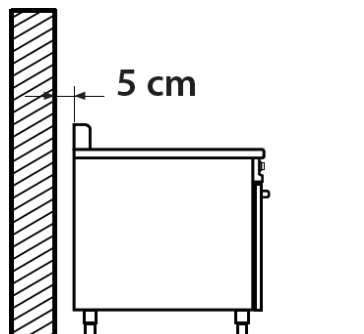

Fig.1
5. If the wall does not have a minimum temperature resistance of 150[], place the unit at least 5cm away from the wall (see Fig.1). If the unit is placed near a wall, partition walls, kitchen cabinets, decorative walls, etc., it is recommended to use a non-combustible material with proper thermal insulation. Be mindful of fire prevention regulations.